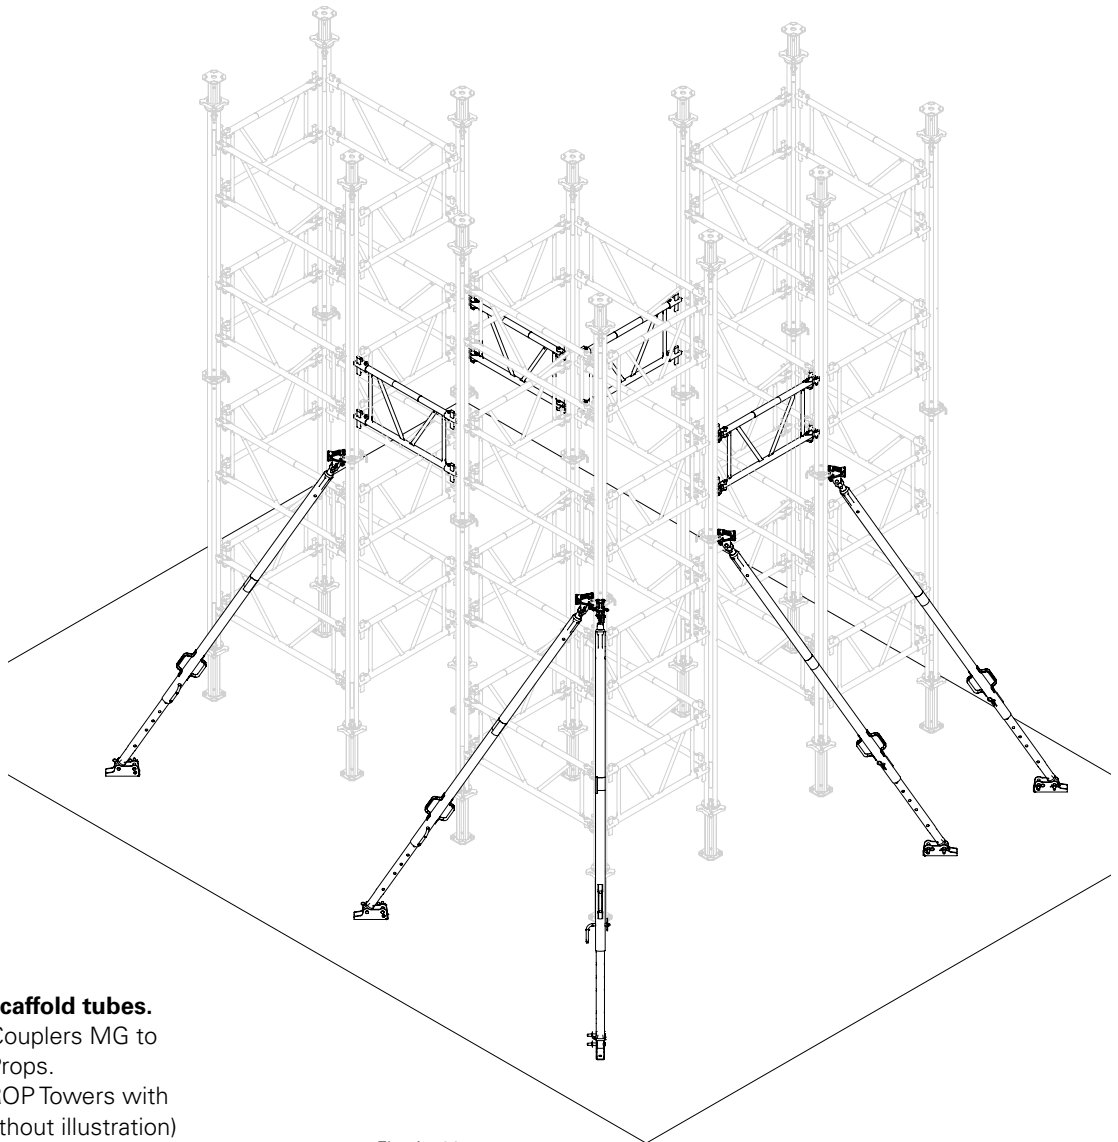

Fig. A5.03
2. Install Frames MRK between the towers. (Fig. A5.03)